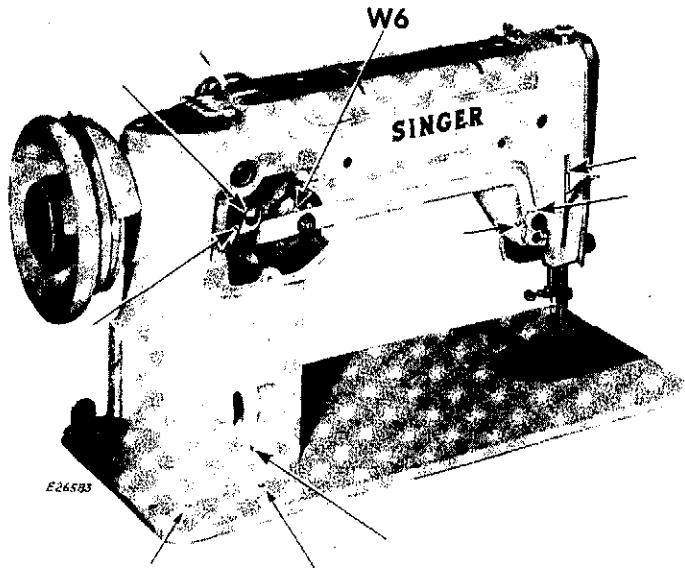

Fig. 260. Rear View—Showing Oiling Points
- ) Apply a small amount of oil to slide block W6, Fig. 260.